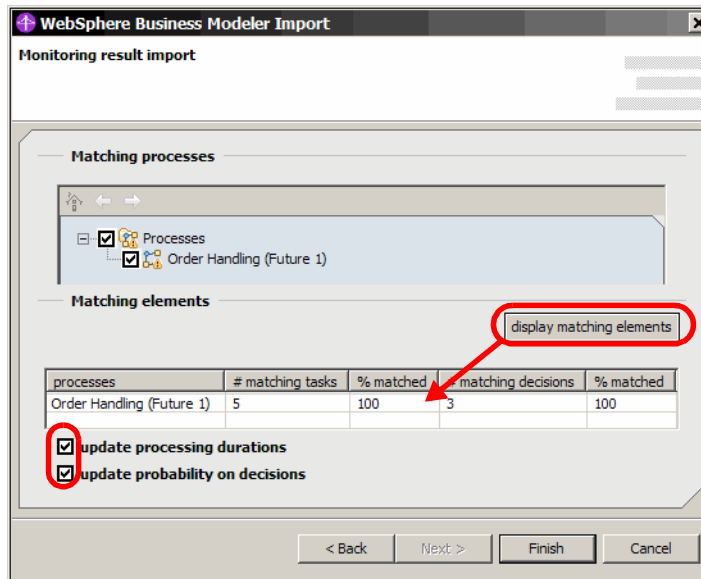

Figure 14-5 Modeler: Importing Monitor results (3)
- ▶ Click *display matching elements* and the list at the bottom is filled. Select *update processing durations* and *update probability on decisions*. Click *Finish* (Figure 14-5).